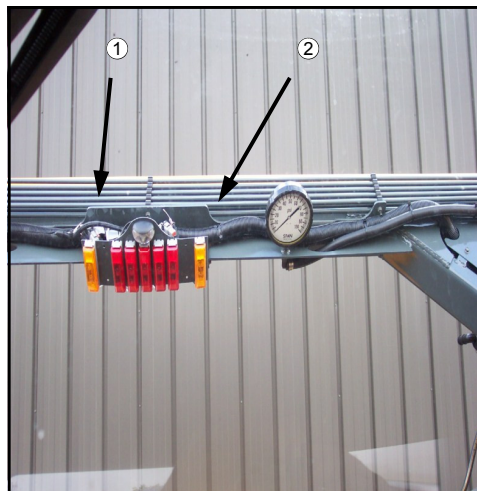

FIG 4.42
A set of amber L.E.D. lights mounted on the transom on either side of the boom solution valve L.E.D. lights will inform the operator of fence row status. If the left fence row nozzle is on, the left amber L.E.D. light is lit (fig. 4.42, item 1). If the right fence row nozzle is on, the right amber L.E.D. light is lit (fig. 4.42, item 2). If neither amber L.E.D. light is lit, no solution is being applied through the fence row nozzles.